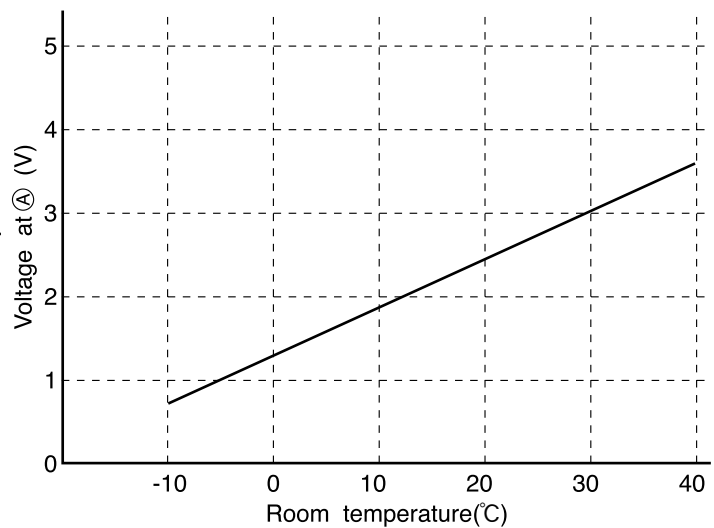

Fig. 6-2
- (1) Preheating.
- (2) Low-temperature defrosting during cooling and dehumidifying operation.
- (3) Detection of the reversing valve non-operation or heat exchanger temperature thermistor open.
The voltage at (A) depends on the heat exchanger temperature as shown in Fig. 6-2